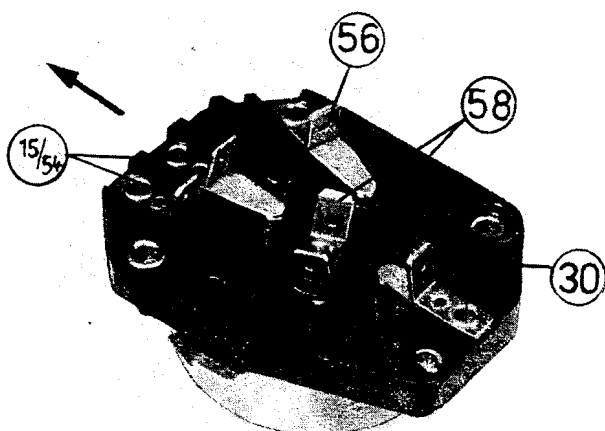

Fig. 178. Connections of the ignition-light switch
In order to be in a position, to plug the cables on the correct lugs after replacing the ignition-light switch, the individual connections involved have been clearly identified in Fig. 178.
The ignition-light switch shown in Fig. 178 cannot be used for the older MZ-types because the former switch position (5) is no longer switched electrically. On the other hand, an ignition-light switch of older types can be used also for the ETZ 250.
The arrow in Fig. 178 shows the mounting position of the ignition-light switch in travel direction, connections downward.